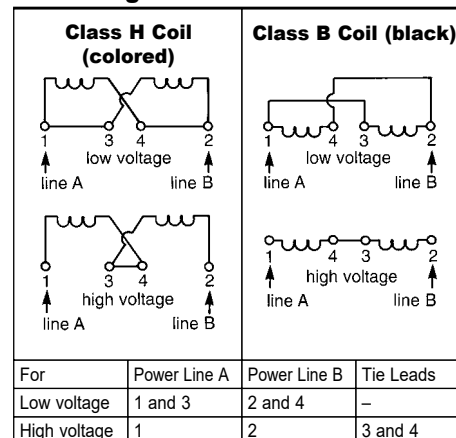

Figure 2
2. On single voltage coils, connect coil to any two leads on single or three-phase motors of the same voltage as the brake. Refer to brake nameplate and coil number for correct voltage and frequency. See Figure 2 for dual voltage coil connection and connect to any two leads of single or three-phase motor of the same voltage. The brake can also be wired to external switch contacts providing proper voltage other than that used to control the motor. Normally, the motor and brake contacts are interlocked.